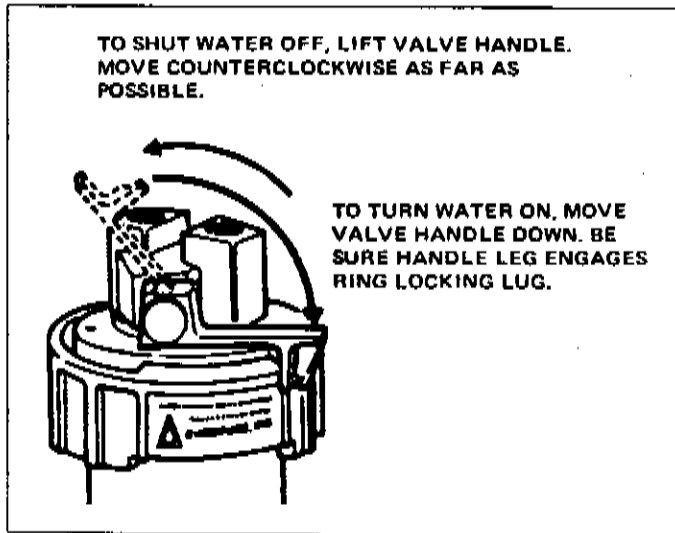

FIGURE 2 - 1 WATER SHUT-OFF VALVE
3. Make sure that water inlet valve on filter head is in off (up) position (see figure 2 - 1).